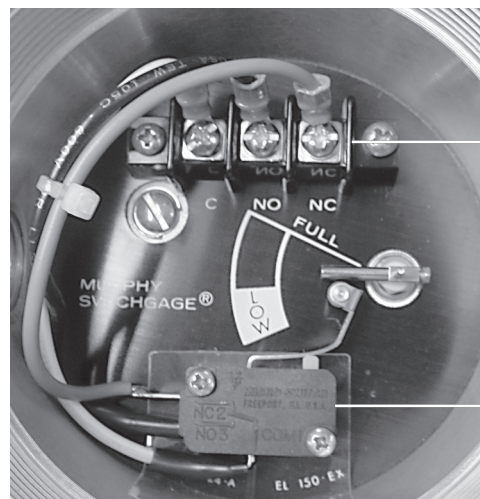

Figure 1.
1. Place screws in terminal block mounting holes and fasten to the cover as shown in Figure 1.
3. Place microswitch assembly inside the cover and tighten screws as shown in Figure 1. Make sure that all wires are placed along the left side of the cover and that they do not interfere with the operation of the unit.